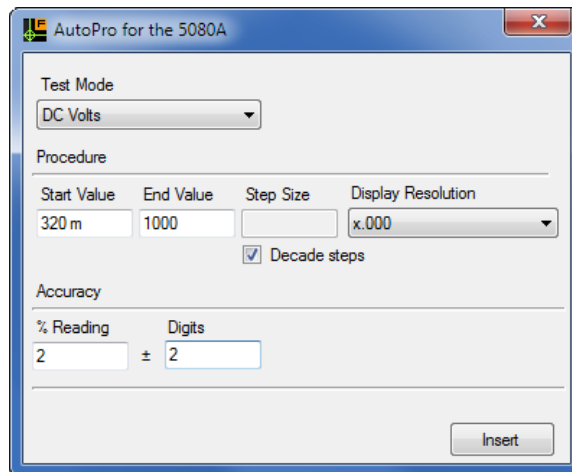

Figure 16. AutoPro Wizard Form
1. Click  to open the AutoPro Wizard form in Figure 16.
4. When you make tests for devices such as a multimeter, set the **Decade steps** checkbox. In the example in Figure 16, the test steps are 320m, 3.2, 32, 320, and 1000 volts.